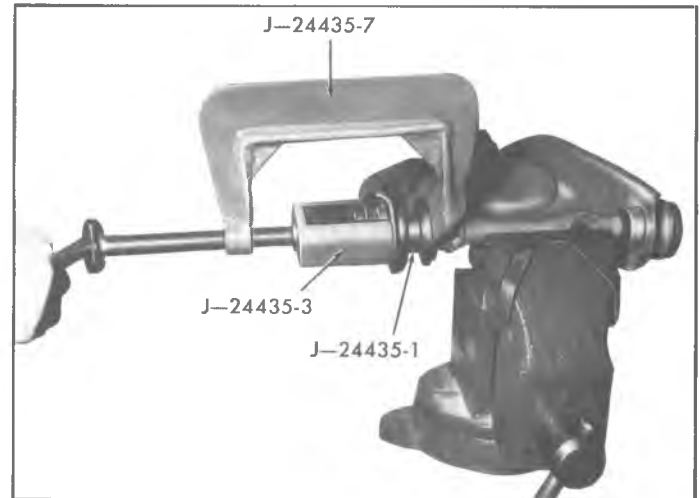

Fig. 32A—Upper Control Arm Rubber Bushing Removal
**Removal (Fig. 32A)**
2. Install remover J-24435-1, receiver J-24435-3 and "C" clamps J-24435-7 as shown in Figure 32A.